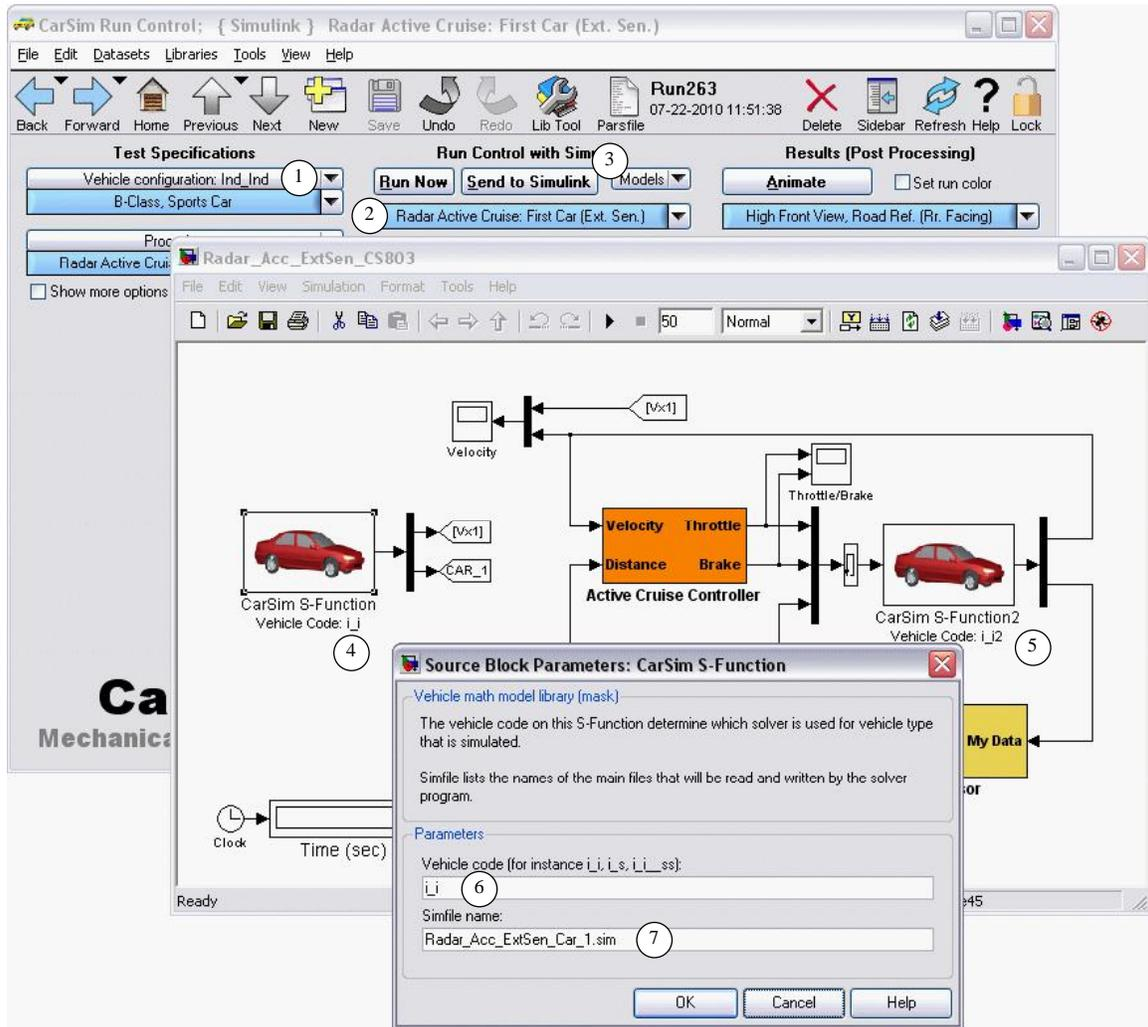

Figure 3. Example Simulink model with two vehicles that interact.
Figure 3 shows one of two **Run Control** datasets that connect to the example Simulink model. Clicking on the **Send to Simulink** button (3) brings up a Simulink model that has two CarSim S-Function blocks. Double-click on the block for the first car (4) to see the associated parameters in a **Source Block Parameters** window. The two parameters for the block are the vehicle code (6) (`i_i`) and the simfile name (7) (`Radar_Acc_ExtSen_Car_1.sim`). (The simfile name is based on the Simulink model name for the radar-based adaptive cruise control with an externally
Because the Simulink model has two CarSim vehicles, this dataset will also specify the name of the simfile with all information about the first car. The miscellaneous field (2) has line with the keyword `simfile` used to specify the name `Radar_Acc_ExtSen_Car_1.sim`. Note that the simfile name here (2) matches the name specified in the Simulink model (7) in Figure 3).
1. Each vehicle model in the Simulink model (an MDL file) must be represented by a copy of the vehicle S-Function block provided with the VS package. (E.g., the CarSim S-Function for CarSim). For example, in Figure 3, there are two copies of this block.